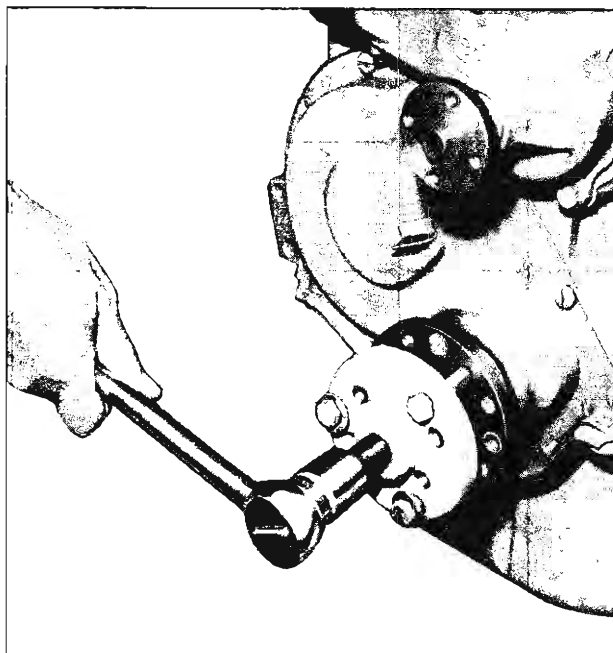

Fig. 11L—Removing Crankshaft Pulley Hub
4. Install puller Tool J-6978 to pulley hub with two 3/8" x 2" and one 5/16" x 2" bolts and remove hub (fig. 11L). Then remove puller tool.